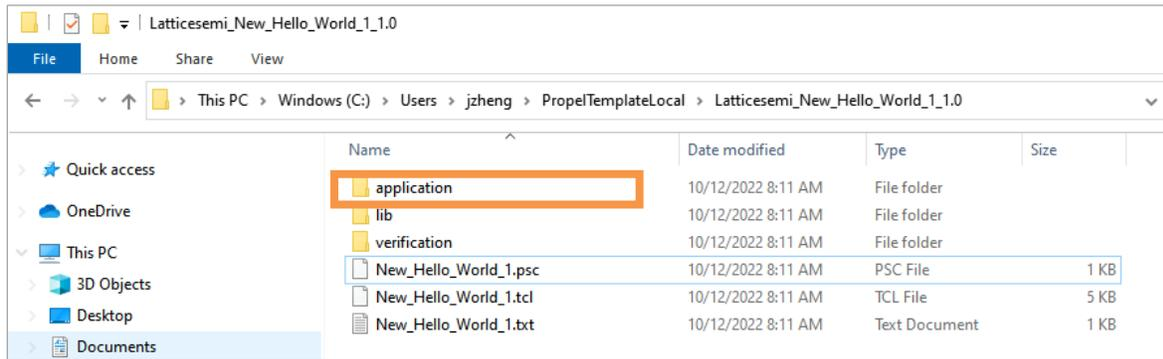

Figure 2.138. Export Template to PropelTemplateLocal Folder
- By default, after you click the Generate button, the new template can be installed to your custom template folder, which is a folder named PropelTemplateLocal under \$HOME (Figure 2.138).
- Option under Template Resources, such as the application folder, contains functional-ready embedded application source codes for C project. Check the box before it (Figure 2.134), then the application under current project is also exported to destination (Figure 2.138). Other files under this option works the same way.